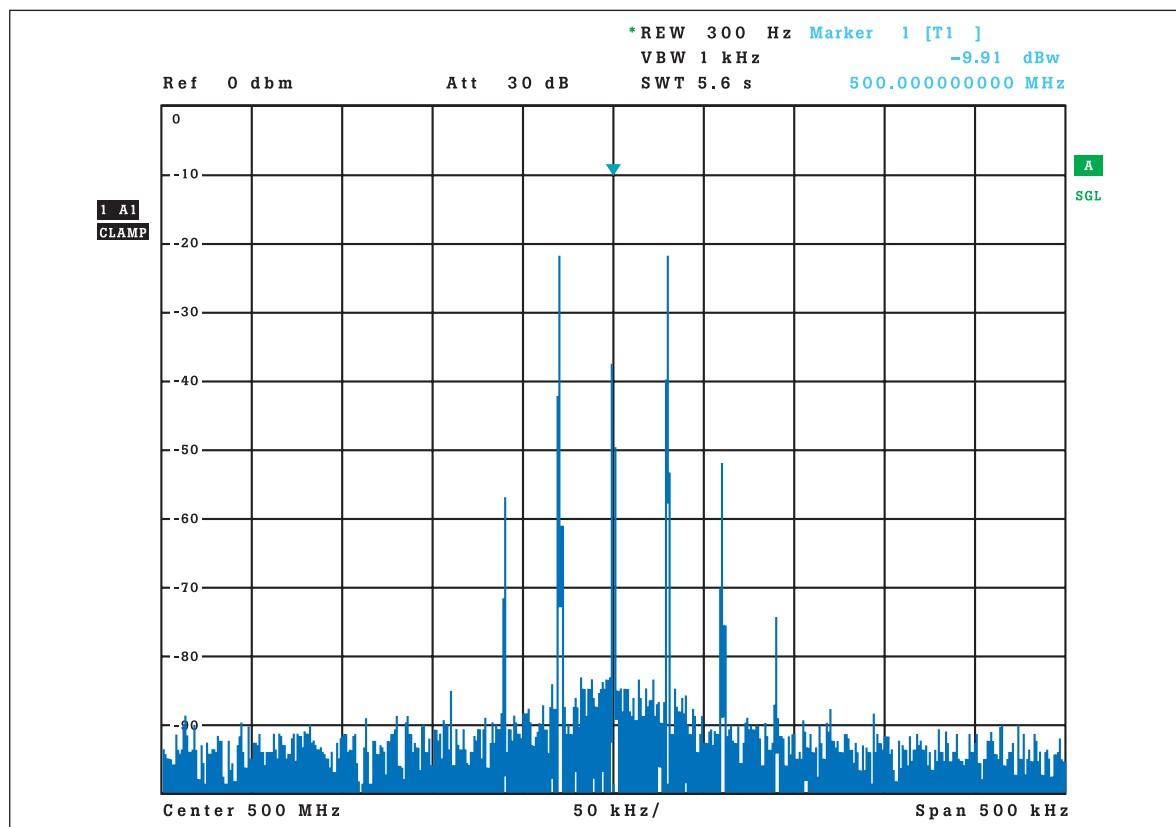

Figure 2. Understanding the display of a spectrum analyzer.
A spectrum analyzer displays the frequency content of a signal, with the horizontal (X) axis indicating the signal frequency and the vertical (Y) axis the amplitude, as illustrated in Figure 2. In calibrating a spectrum analyzer, it's important to verify that the X axis, Y axis, and marker readout are all accurate.
The X axis measures the frequency of the signal. In the example shown in Figure 2, the X axis covers a span of 500 kHz, ranging from a start frequency of 499.75 MHz to a stop frequency of 500.25 MHz. The center point of the X axis is 500 MHz, and each division represents 50 kHz. The frequency of the horizontal axis is calibrated linearly, enabling you to measure and compare the frequency components of the signal.
The Y axis enables you to measure either the relative amplitude of one signal against another or the absolute amplitude of a signal. In Figure 2, the top line of the display, representing 0 dBm, is set as the reference level, and the levels decrease as you move down the display, with each division representing a -10 dB step. Because it's possible that a signal's amplitude might be displayed accurately at one level and out of spec at another, it's important to verify the analyzer's accuracy and linearity throughout its amplitude range.
The display also shows the marker readout, or cursor position. For spectrum analyzers with digital displays, differences between the cursor accuracy and display accuracy are less of a concern, as the displayed trace and the cursor readouts are produced from the same measurement data. But for older, analog instruments, it can be important to verify the accuracy of amplitude and frequency measurements for both the display and the cursor. In Figure 2, the amplitude of the cursor position is -9.91 dBm, and its frequency is 500 MHz.
- **RF attenuation.** This setting attenuates the input signal in order to avoid overloading the mixer. Otherwise, unwanted harmonic and intermodulation signals may appear in the displayed spectrum. In Figure 2, the RF attenuation is 30 dB.
- **Reference level.** This setting alters the IF gain to obtain the desired display. Whatever signal level you set as the reference level will be displayed at the top of the graticule. In Figure 2, the reference level is 0 dBm.
- **Resolution bandwidth.** This setting (abbreviated as RBW) refers to the bandwidth of the IF filter. The smaller the filter bandwidth, the longer time it takes to complete a sweep of a signal. In Figure 2, the filter bandwidth is 300 Hz.
- **Video bandwidth.** This setting (often abbreviated as VBW) determines how much the signal is filtered to remove noise after passing through the detector. The smaller the video bandwidth, the smoother the signal. In Figure 2, the video bandwidth is set to 1 kHz.
- **Sweep time.** The sweep time determines how long it takes to go from the start frequency to the stop frequency. In Figure 2, the sweep time is 5.6 seconds.